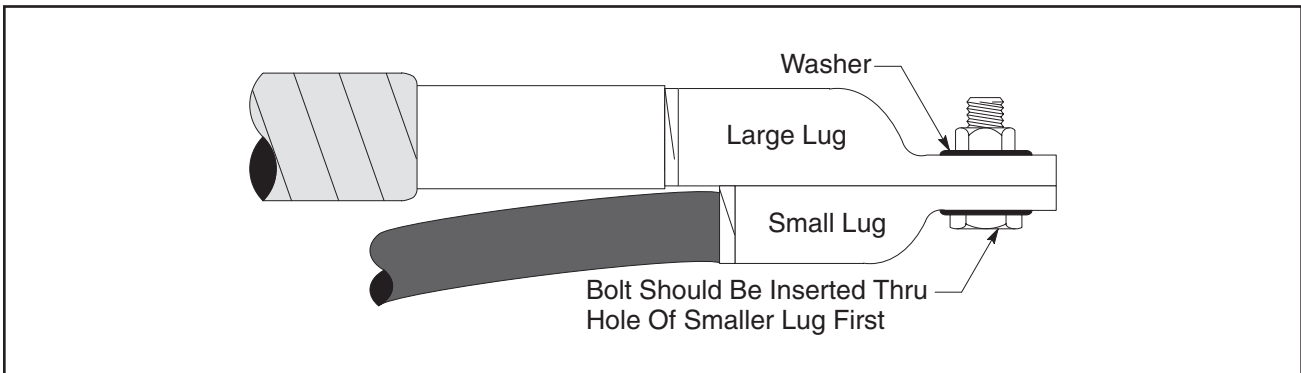

Figure 11
- 7.3 Bolt lugs together. See Table 1 on cover for maximum bolt length. See *Figure 11* for proper bolt/lug arrangement.